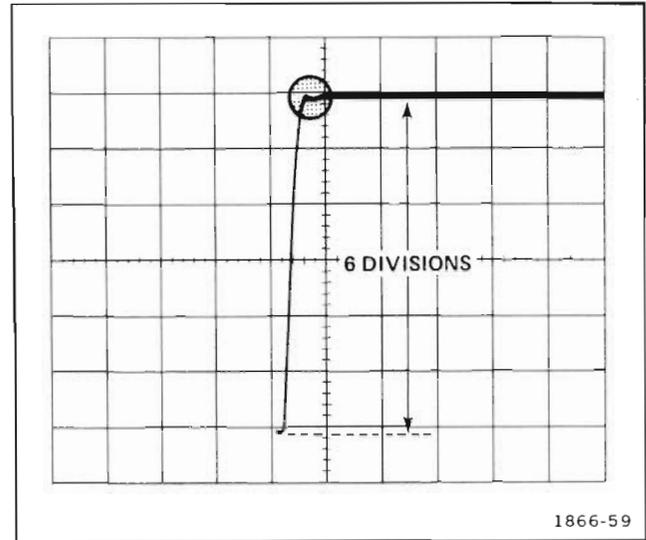

Figure 5-1. Typical display when Z-Axis Compensation is properly adjusted. Circle surrounds compensated portion of waveform.
- d. Set INTENSITY for a positive step amplitude of 6 divisions (30 volts) on the test oscilloscope and center the display on the graticule. See Figure 5-1.
- e. Check—For a flat-top waveform with approximately 1 volt or less (0.2 division) of aberration at leading corner. See Figure 5-1.